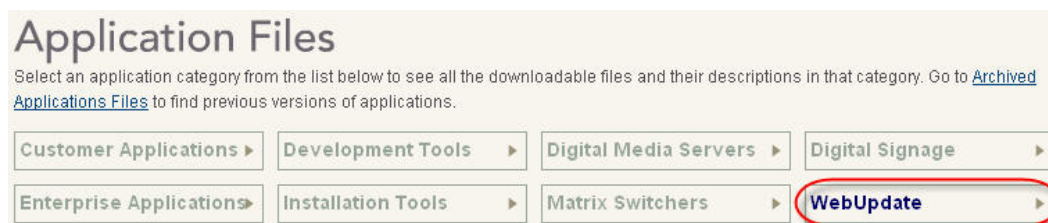

FIG. 286 Application Files page - WebUpdate selected
4. In the *Application Files* page, click on **WebUpdate** (FIG. 286):